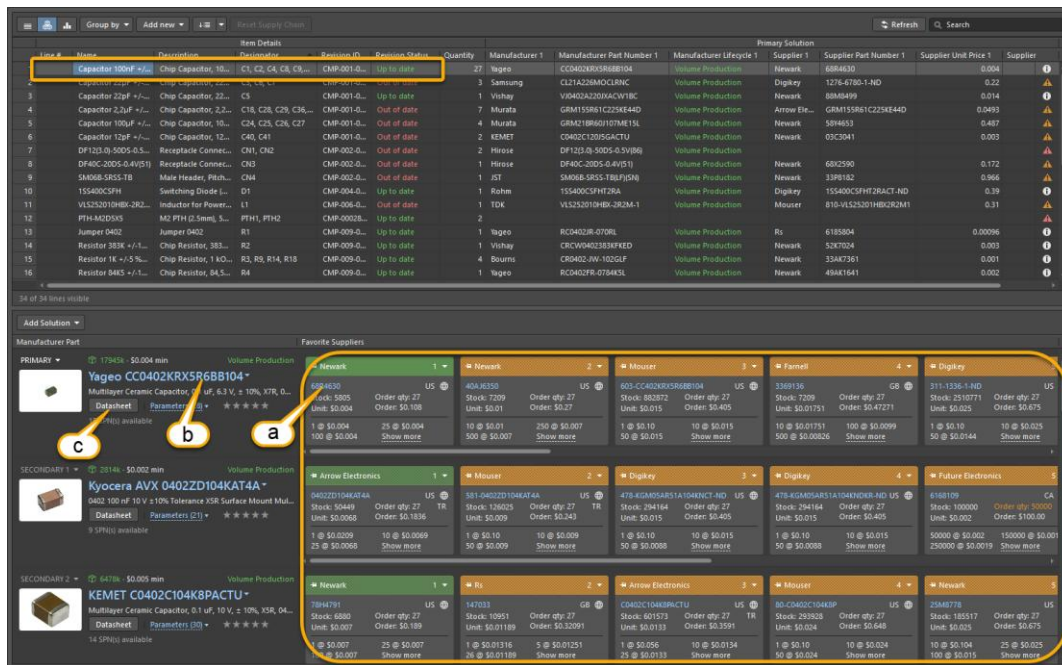

Figure 11. Example Solution
28. Select component C1. At the bottom of the ActiveBOM, you will see the current solutions (Yageo, Kyocera, Kemet...) for the component. Supply Chain Information such as price, stock, or Manufacturer Lifecycle for different suppliers are listed as shown in Figure 11.